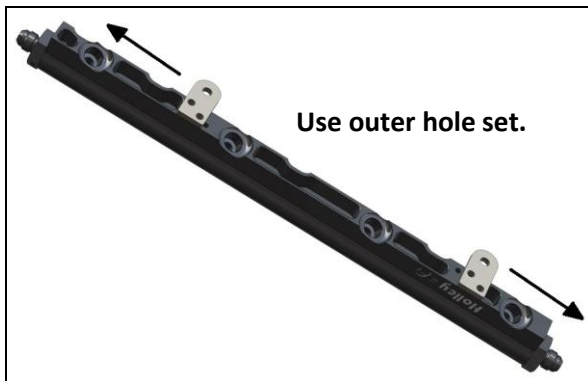

Figure 4 - Bracket placement
- Use brackets 49R3142 for LS2, LS3, & L99 applications (**Figure 4** bracket placement)
When using optional kit P/N 534-212 to allow the upgrade to tall performance injectors (use **Figure 4** bracket placement for both):